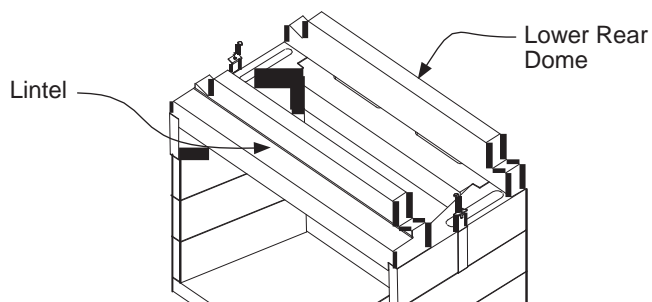

Figure 44 - Attaching Lower Rear Dome and Lintel
10) Set the Lintel and Lower Rear Dome in place as shown in Figures 44. Check that all is level. If you need to make adjustments, use shims. Place one or more of these shims between the lowest wall component and the top surface of the base plate. Once you are satisfied with the degree of levelness, you can address any gap that may have occurred with an appropriate amount of mortar.